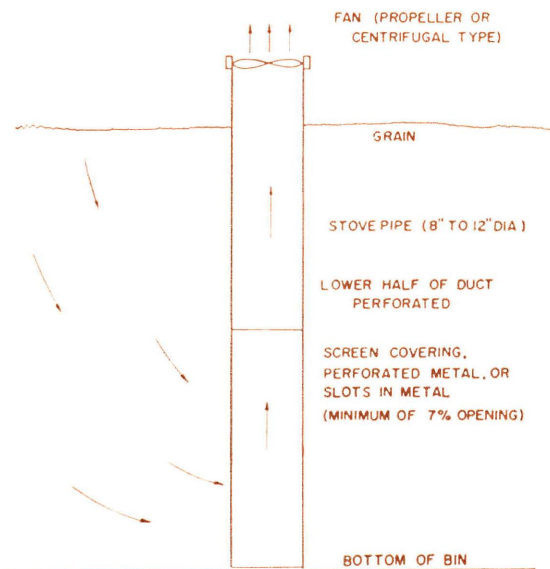

Fig. 1. Installation of vertical duct in bin with fan exhausting air may be used for cooling and fumigating in round or rectangular bin.
4. *Fumigation*—The fumigant can be placed in the bin and recirculated as long as needed, then flushed out according to recommendations for the fumigant being used. A vertical duct extending to the floor will give uniform and complete fumigation coverage (Figs. 1 and 2). A system with horizontal ducts also works very well. Follow the instructions of the fumigant manufacturer.
Vertical Ducts—A very simple system for mechanical cooling of grain consists of installing a duct *vertically* in the bin, with the fan on the duct exhausting air from the bin (Fig. 1). The length of the vertical duct can vary according to the depth of the bin. The duct needs to extend only two-thirds of the depth of the bin for mechanical cooling, but it should extend to the bottom of the bin for fumigation.